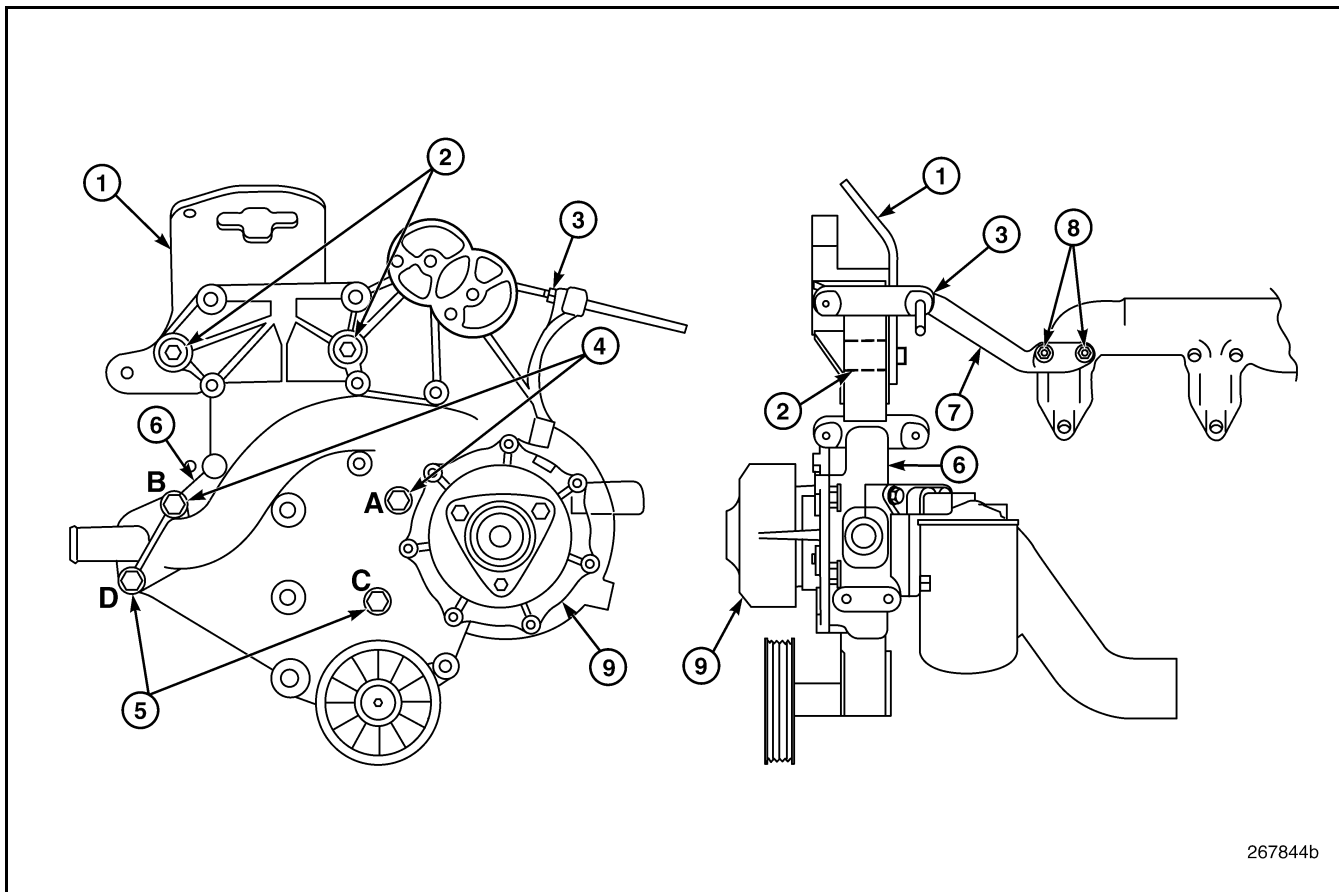

Figure 477 — Water Pump Installation
Refer to Figure 477 as required to identify parts referenced in the steps below.
8. Remove the water pump stiffening bracket by first removing the two M8 flanged nuts from the studs at the forward position of the water manifold. Then remove the M8 flanged nut from the backside of the A/C compressor upper mounting stud to release the water pump stiffening bracket. Refer to Figure 477.
The ASET™ AC water pump assembly is quite different in design with some essential steps required for proper installation. Refer to Figure 477 as you work through the procedure.
6. Place the engine lifting bracket in position (bend angle facing forward) between the housing and cylinder head (Figure 477). Make sure the bracket mounting holes clear and slip into position on the insert collars.
7. Push the housing against the block and hand-tighten the mid-position mounting bolts (item 4 in Figure 477).
8. Install the two mounting bolts and washers in the low-position mounting holes (item 5), hand-tight.
9. Make sure the lifting bracket mounting holes are properly positioned on the insert collars and then tighten the mid-position and low-position bolts to specification, 69 lb-ft (94 N•m), in sequence A, B, C, D shown in Figure 477.
12. Position the water pump stiffening bracket (item 1 in Figure 477) over the two studs at the forward position of the water manifold. At the same time, position the forward section of the stiffening bracket over the backside of the A/C compressor upper rear mounting stud. Install the three M8 flanged nuts on the stiffening bracket and tighten to 20 lb-ft (27 N•m). Refer to Figure 477.